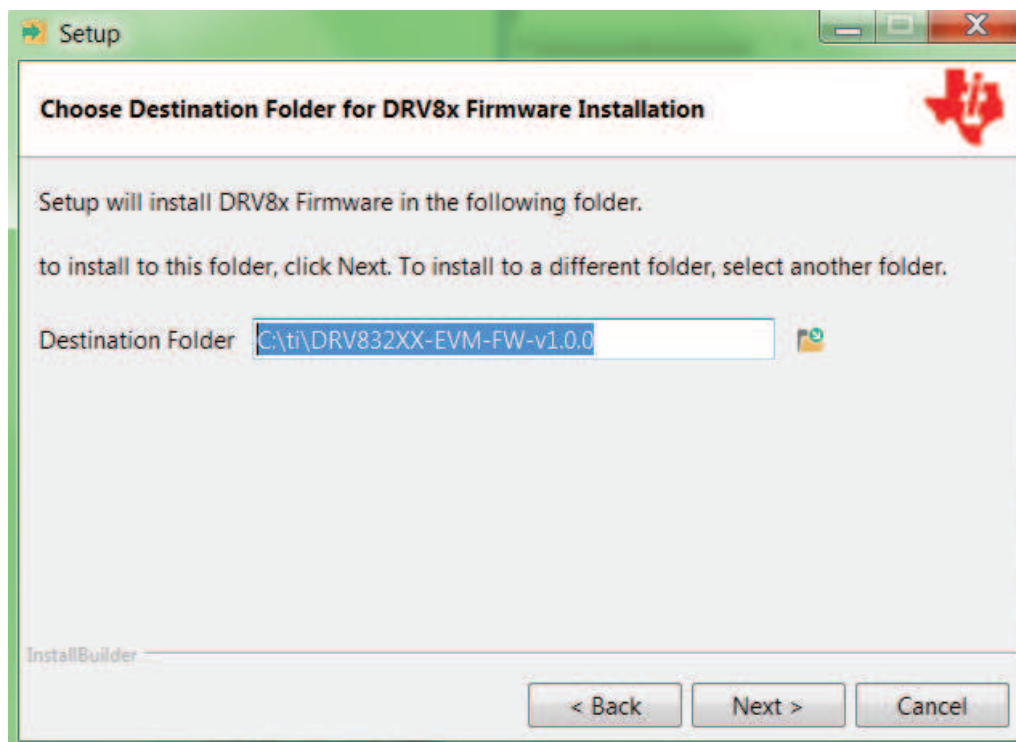

Figure 17. Setup Destination Folder
- Step 5. Choose the destination location for the example CCS projects and the documentation (see Figure 17). This destination can be set to any location in the PC.